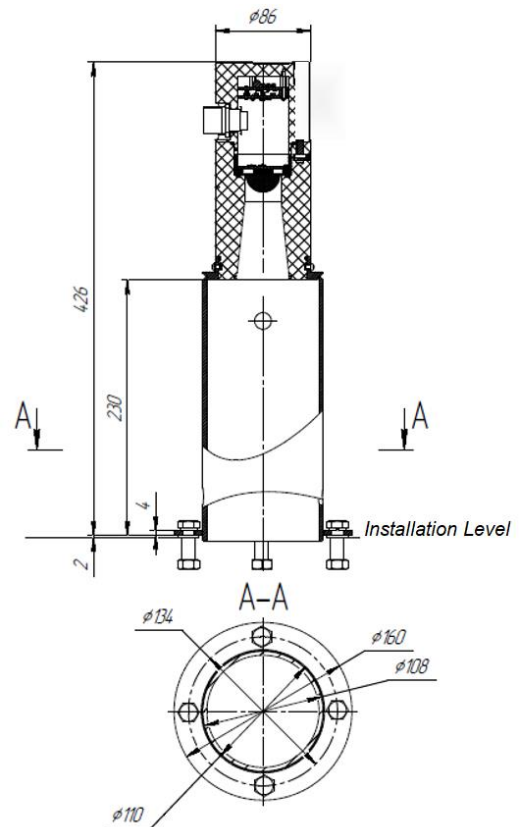
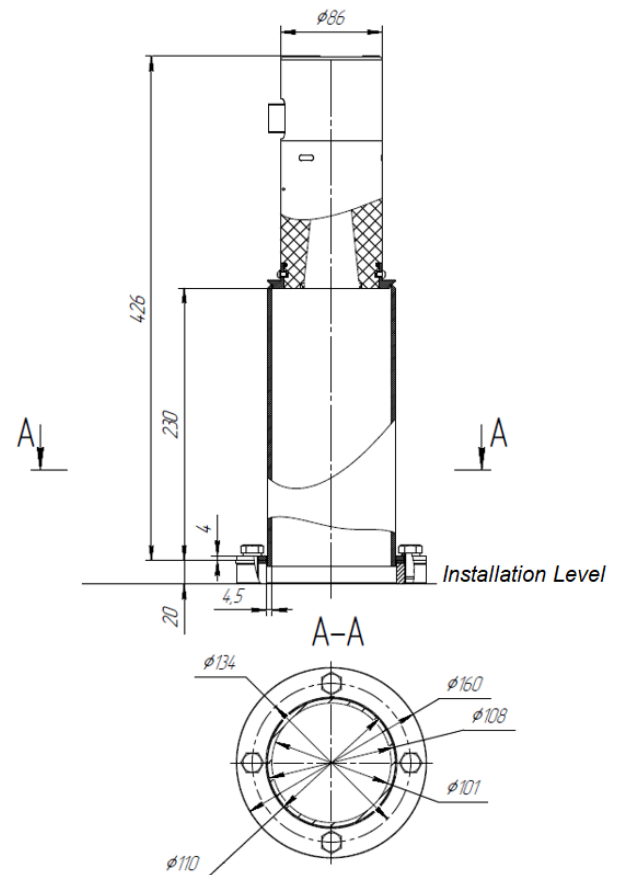

Figure 1. Overall dimensions of the U-150 Level Gauge with the general stand
Figure 2. Overall dimensions of the U-150 Level Gauge with the enclosed stand
- Basic dimensions at the processing facilities correspond to the dimensions of the U-150 (see Fig. 1 and Fig. 2);
- Cut a hole of 110 x 110 mm on the top of the tank and drill holes (4 pcs.) for mounting the support (see Fig.1);